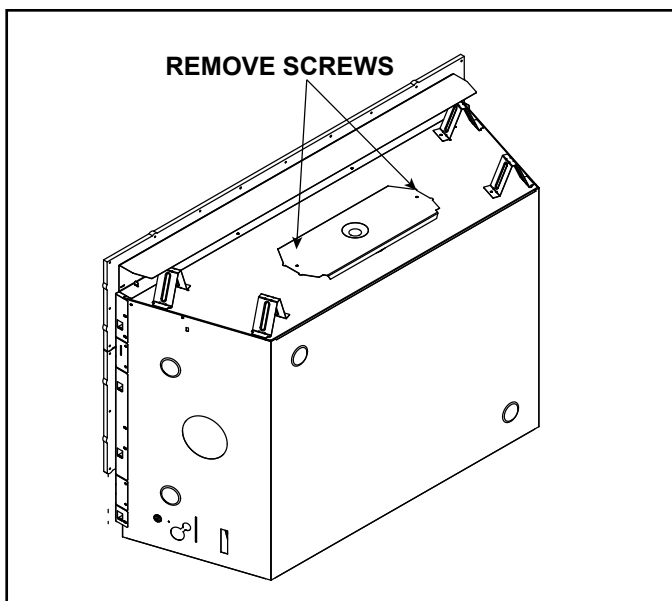

Figure 6.1 JADE42IN/JADE42IL - Shipping Position
1. Remove two screws and discard. See Figure 6.1.